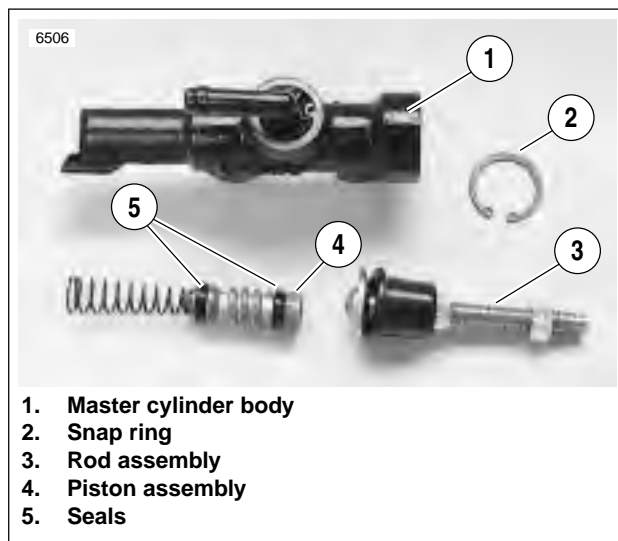

Figure 2-53. Master Cylinder Internal
1. See Figure 2-53. Slide rubber boot on rod assembly (3) away from master cylinder body (1).
2. Depress rod assembly (3) and remove internal circlip (2). Discard circlip.
3. Remove piston assembly (4) from master cylinder body (1).
4. Loosen adjuster locknut on the rod assembly (3).
5. Remove the clevis from the rod assembly (3).
2. See Figure 2-53. Assemble **new** piston components placing small end of spring behind primary seal of piston (4).
3. Lubricate master cylinder body (1) and piston seals (5) with **D.O.T. 4 BRAKE FLUID**.
4. Place round side of rod assembly (3) over piston. Depress piston (4) into master cylinder body (1) and secure with a **new** circlip (2).